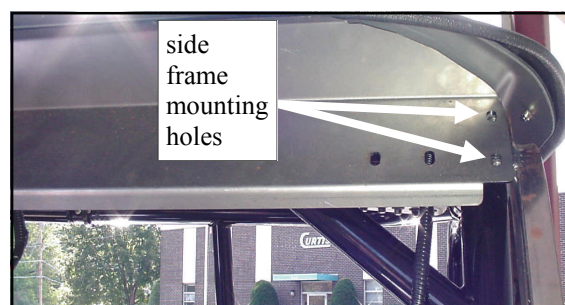

Fig. 4.1 View from driver's side
4.1 If installing optional work lights, pop the two Heyco plugs out and discard them. If not installing optional work lights, leave the plugs in place. With assistance, install the windshield support as shown in fig. 4.1. Install four 5/16-18 x 3/4" long hex head bolts, four internal tooth locking washers, and four flat steel washers. Factory installed weld nuts are provided on the tabs of the side frame. See right side of figure 4.1. Leave bolts loose.